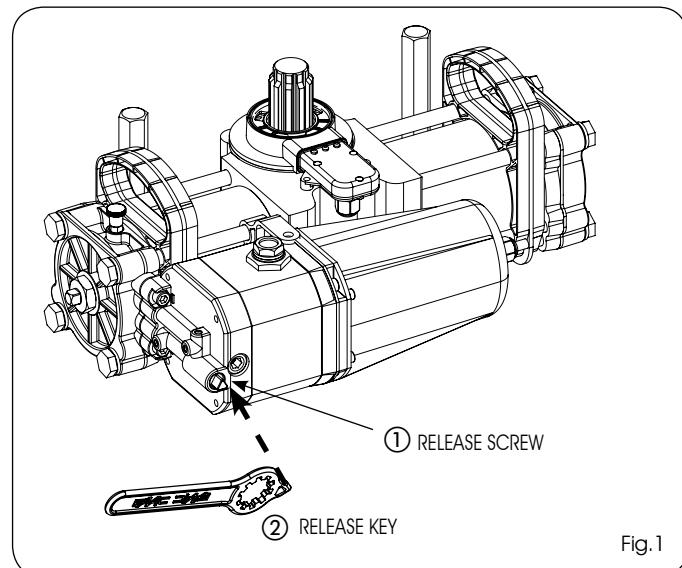

Fig. 1
- 2) Turn the release screw (Fig. 1 ref.①) inserting the triangular recess of the supplied key (Fig. 1 ref.②):